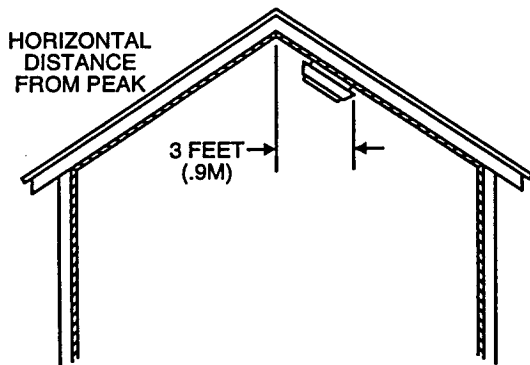

Figure 4. Sloped, peaked, or gabled ceilings.
- In rooms with sloped, peaked, or gabled ceilings, install sensors 3 feet (0.9 meter) measured down on the slant from the highest point of the ceiling (Figure 4).